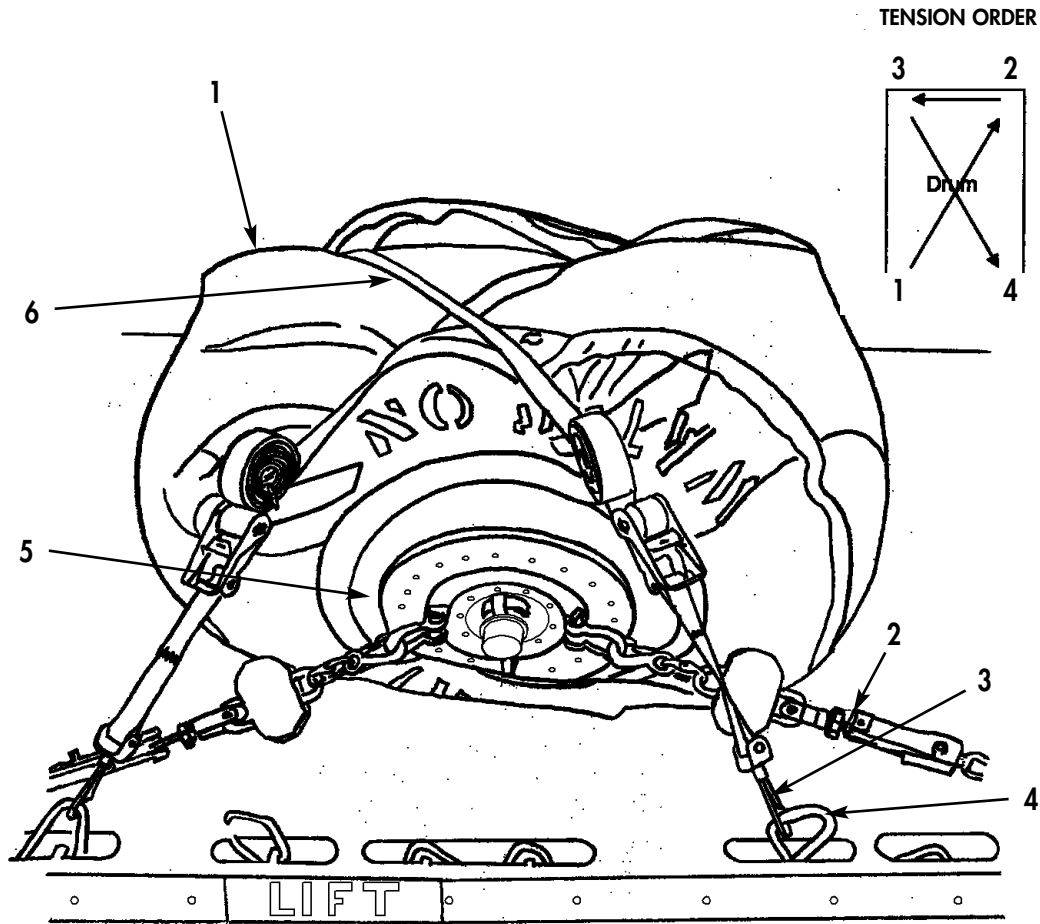

Figure 18. Tiedown Straps Installed on Drum.
- a. Position two tiedown straps (Figure 18, Item 6) crisscrossed on top of each partially full or empty drum.
- b. Connect hook ends (Figure 18, Item 3) of two straps (Figure 18, Item 6) to platform tiedown rings (Figure 18, Item 4) at both sides of CROP, and loosely tighten straps (Figure 18, Item 6). Refer to WP 0004.
- d. Tighten two chain tiedown assemblies (Figure 18, Item 2) on each side of drum (Figure 18, Item 1) following tension order shown in figure 18, then tighten two tiedown straps (Figure 18, Item 6) in same manner. Roll up ends of tiedown straps (Figure 18, Item 6) and secure with ties as necessary.
- e. Loosen two chain tiedown assemblies (Figure 18, Item 2) on both sides of empty drum (Figure 18, Item 1) to allow end plates (Figure 18, Item 5) to fold inward when tightening tiedown straps (Figure 18, Item 6).
- f. Alternately tight two tiedown straps (Figure 18, Item 6) on empty drum (Figure 18, Item 1). Roll up ends of tiedown straps (Figure 18, Item 6) and secure with ties as necessary.